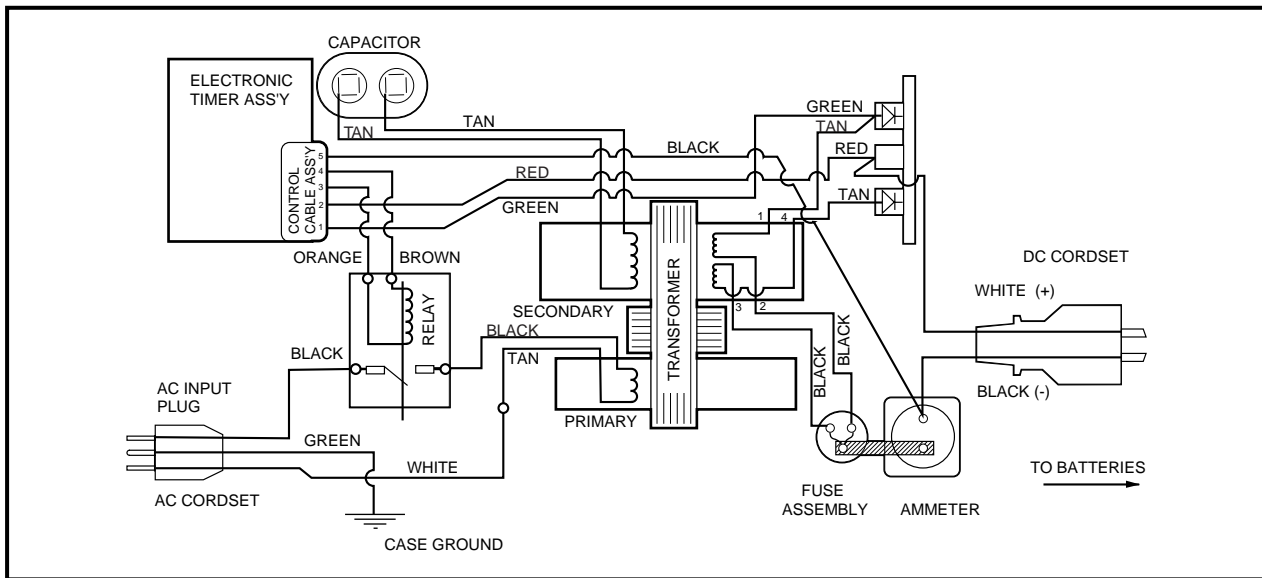
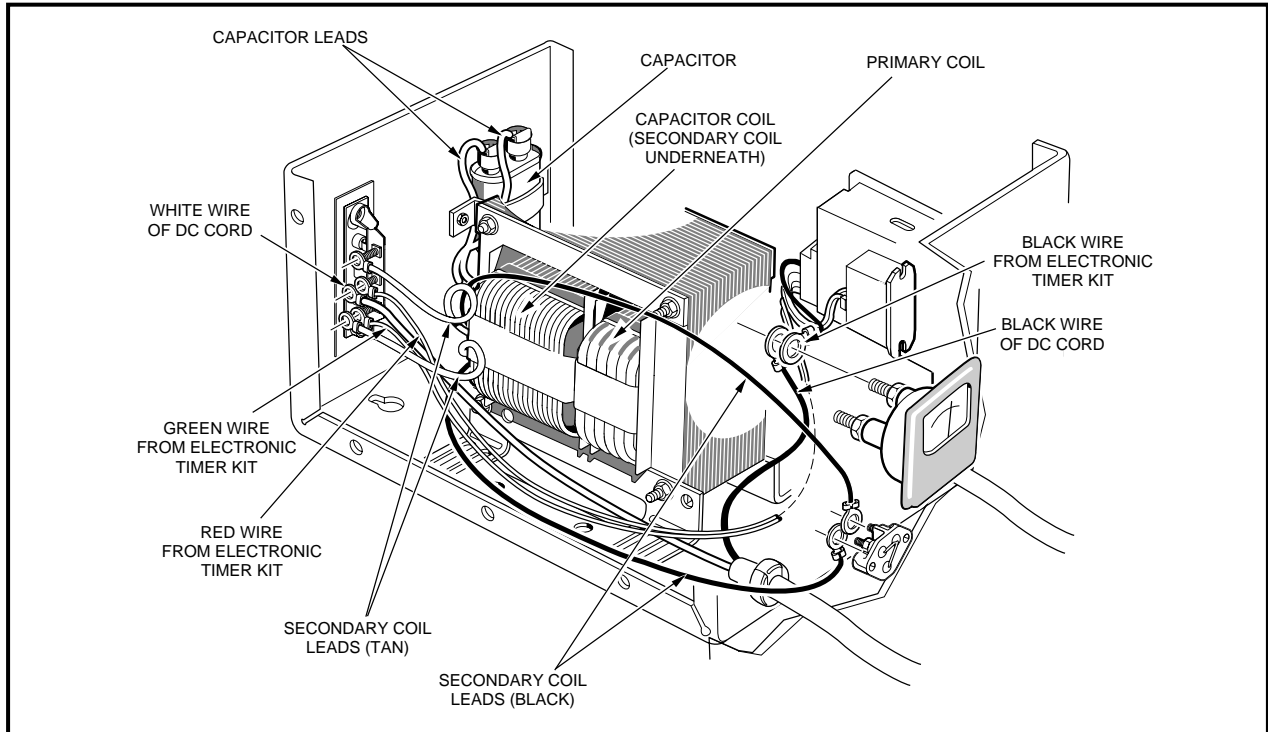

Figure 14-2 Charger Wiring Diagram
Figure 14-3 Charger Wiring
- BECOME FAMILIAR WITH WIRING AND TERMINOLOGY OF CHARGER BEFORE ATTEMPTING ANY REPAIR TO THE CHARGER (**FIGURE 14-2, PAGE 14-2 AND FIGURE 14-3, PAGE 14-3**).
3) Improper wiring of Electronic Timer Kit.	Figure 14-2, Page 14-2
4. If the voltage readings obtained at the receptacle and at the batteries are not the same, check the wire connections at the receptacle and at the batteries. If the DC voltages are the same and within limits, remove the charger cover and verify that the charger is properly wired. With the AC cord disconnected, insert the DC plug into the charger receptacle. With a multimeter set to 200 volts DC, measure battery voltage at the white and black wires from the DC cord inside the charger (**Figures 14-2 and 14-3, Pages 14-2 and 14-3**). The voltage reading should be the same as at the receptacle. **See Test Procedure 9. See DANGER and WARNING on page 14-5.**